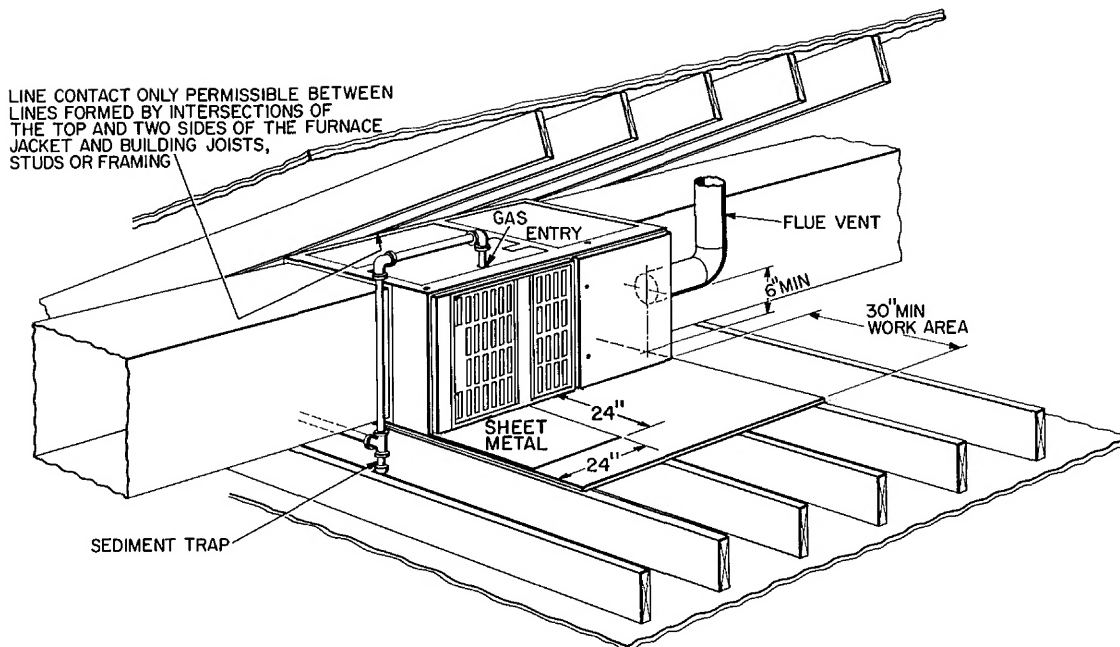

Fig. 8 — Typical Attic Installation
Horizontal Attic Installation — The Model 58DHB furnace can be installed horizontally on either the left-hand or right-hand side. A typical attic installation is shown in Fig. 8.
2. Connect gas supply pipe. See Fig. 8 for typical piping entry. It is important to install a sediment trap in the gas pipe riser.
4. Install 24- x 24-in sheet metal shield on platform in front of louvered control panel. See Fig. 8.